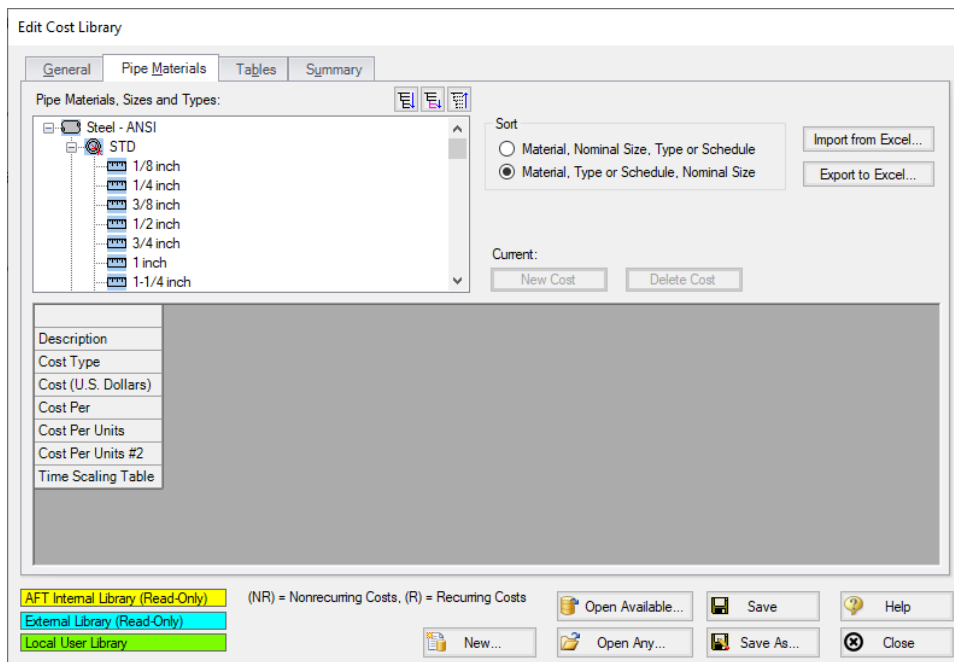

Figure 7: Pipe Materials tab in the Cost Library window showing the properties for the currently selected pipe
7. Expand the Steel - ANSI list, then expand the STD list (Figure 7).
If a size from the list is selected, the hydraulic diameter can be viewed, along with a summary of the material, size and type. The New Cost button will also become active (Figure 7). There are a few methods available when adding the pipe costs. We could individually add the Material and Installation costs for each pipe size by selecting each size from the pipe materials list, then using the New Cost button to add these costs to the table individually. Alternatively, the pipe costs can be entered into a template in , then imported to the Cost Library all at once.